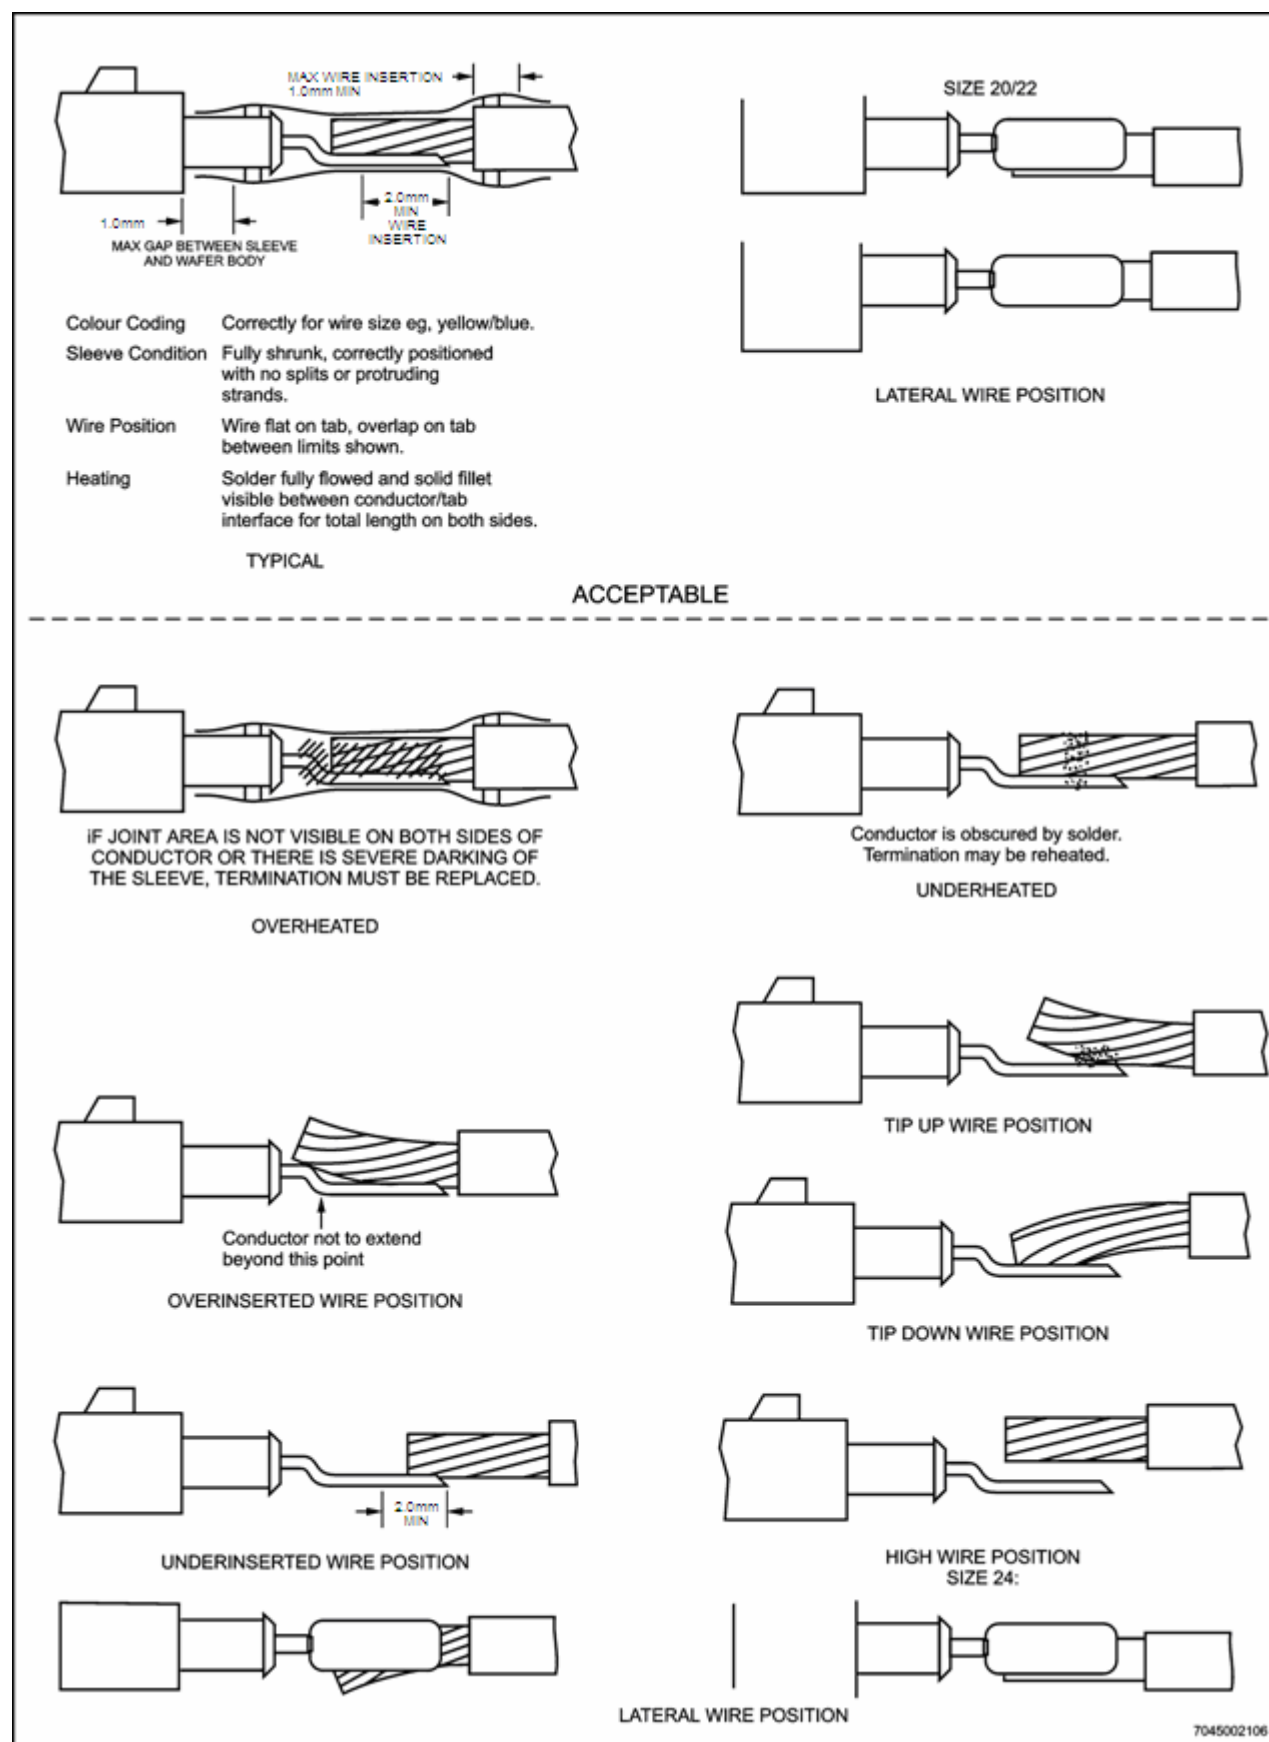

Figure 10-68 Inspection Criteria
- g. Remove assembly from fixture and inspect in accordance with Figure 10-68.